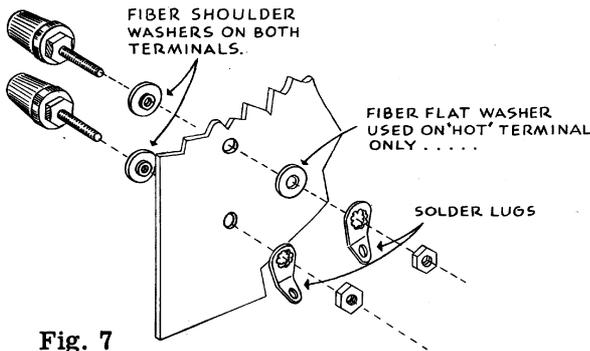

Fig. 7
- ( ) 16. Add the binding posts to the panel, following Figure 7 carefully. The upper post, or "hot" terminal must be insulated from the panel as shown. The fiber washer on the front of the ground post is used only as a spacer.